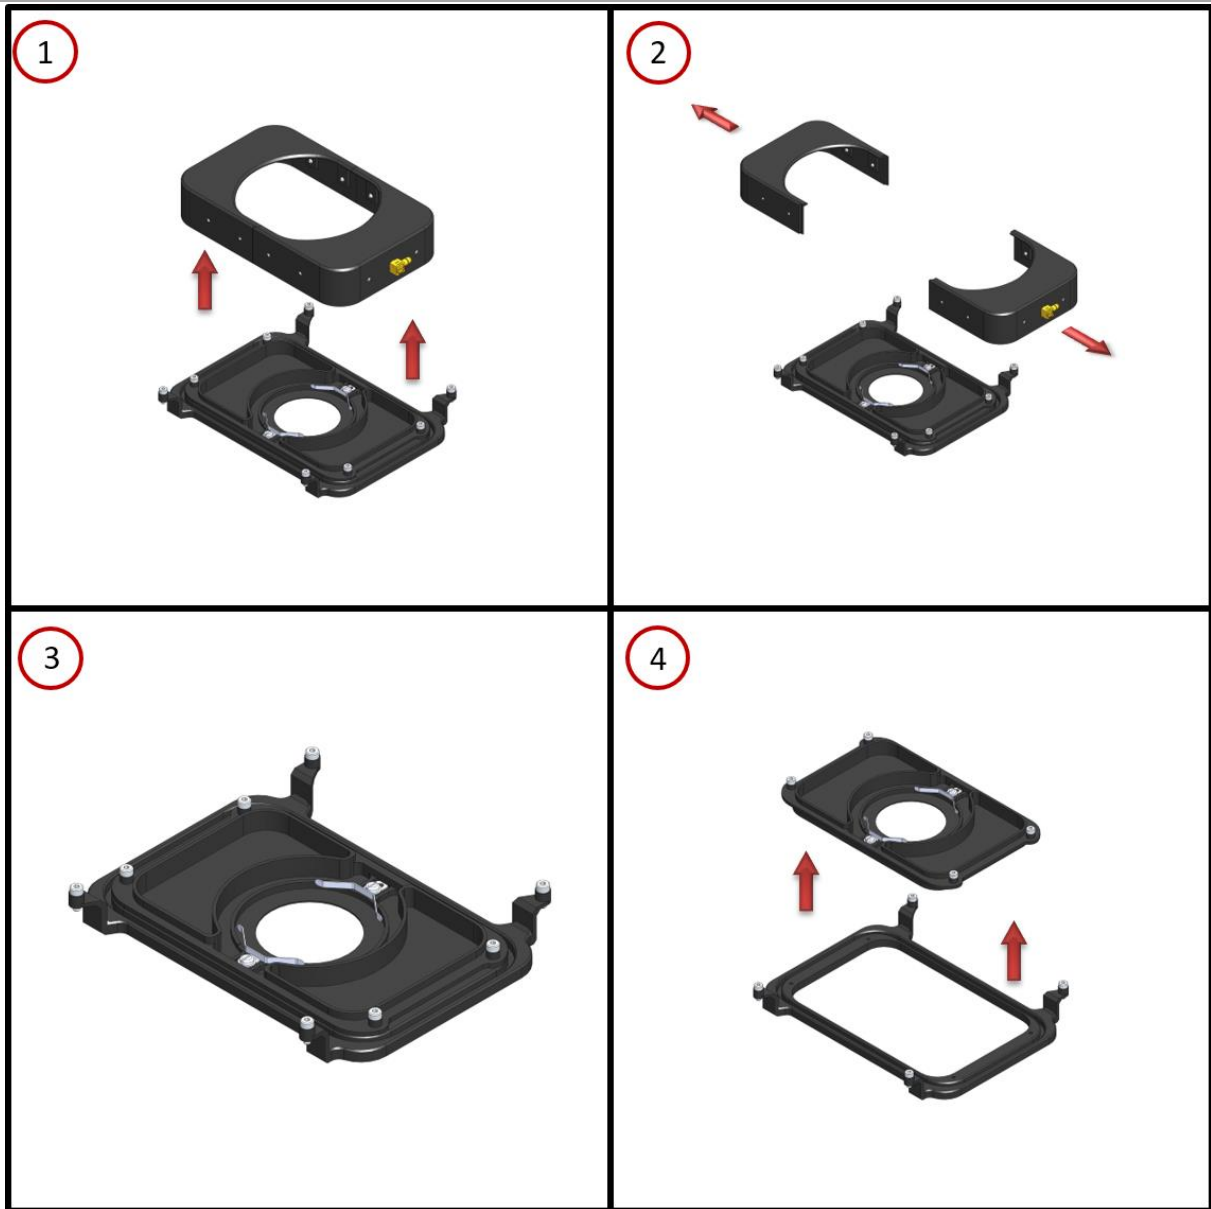

Figure 7. Introduction of the Specimen Holder inside the Chamber Base.
If you want to change the sample holder follow the steps shown in the images of Figure 7 and listed below:
1. Remove the chamber body by lifting it from the workspace, as shown in Figure 7 Image 1 and 2
3. Lift and replace the sample holder, as shown in Figure 7 Image 4